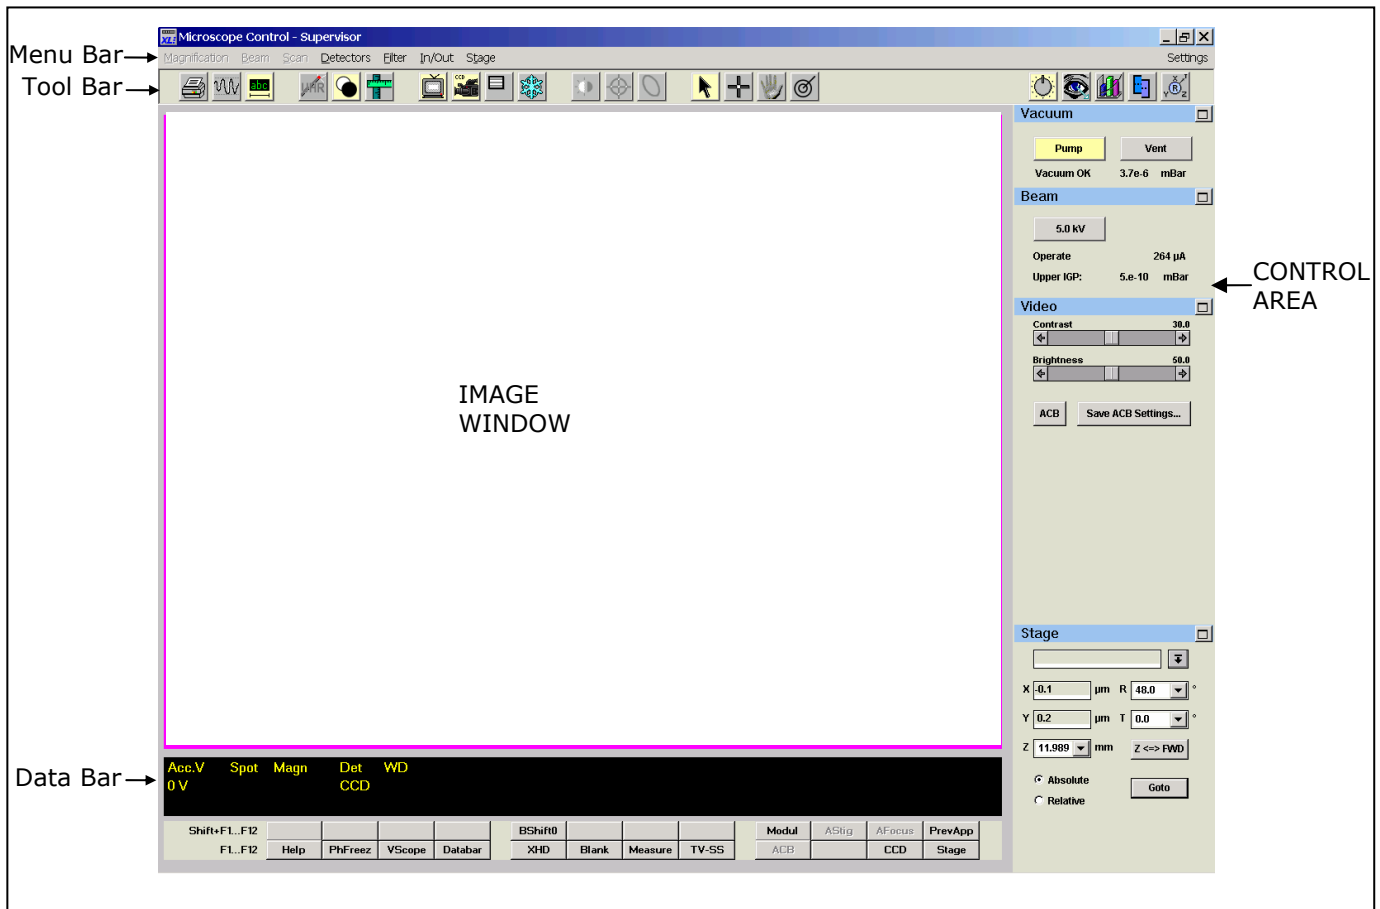

FIGURE 1: The initial Microscope Control window
- b. Click on the XL-Microscope Control icon located on the desktop, and enter your group's FEI system username and password to open up the Main Window of the control program, Fig. 1. This window displays status and control features for the Sirion SEM (image window, menu bar, tool bar, data bar, and control area).
- d. Click on the **Vent** button of the **Vacuum** control group located in the CONTROL AREA (Fig. 1) of the main window to bring the sample chamber up to atmosphere (button goes yellow).